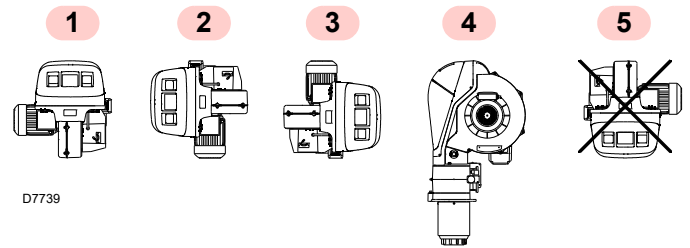

Fig. 9
- The burner is set up to operate only in positions **1**, **2**, **3** and **4** (Fig. 9).